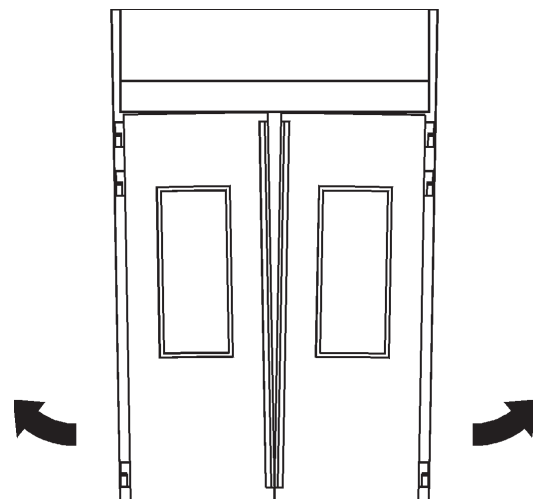

Fig. 3 Adjustment of doors
8. Close the doors and adjust the sides so that the doors are parallel (Fig 3).